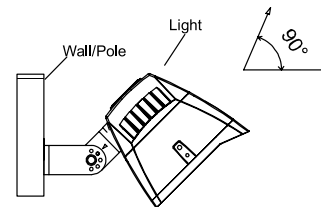

FIGURE 9
3. Connect the fixture to the bracket and tighten the screws; connect the wires properly (FIG 9)
- Notice: Adjustable angle is 0~+/-90° (FIG 9)